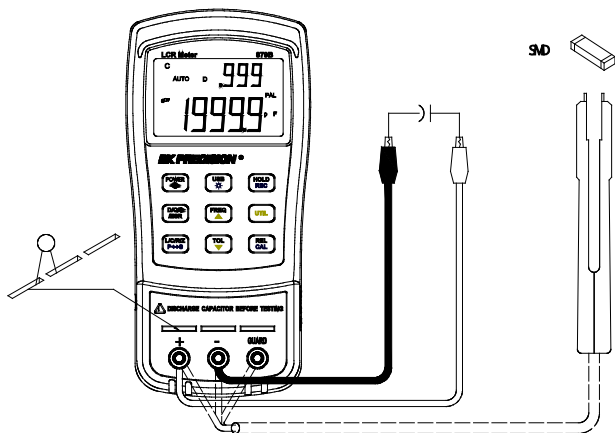

Figure 11 - Capacitance Measurement Setup
4. Insert the DISCHARGED capacitor or capacitive component into the input sockets or connect alligator leads into the banana jack input terminals and connect the clips to the component leads as illustrated in Figure 11.